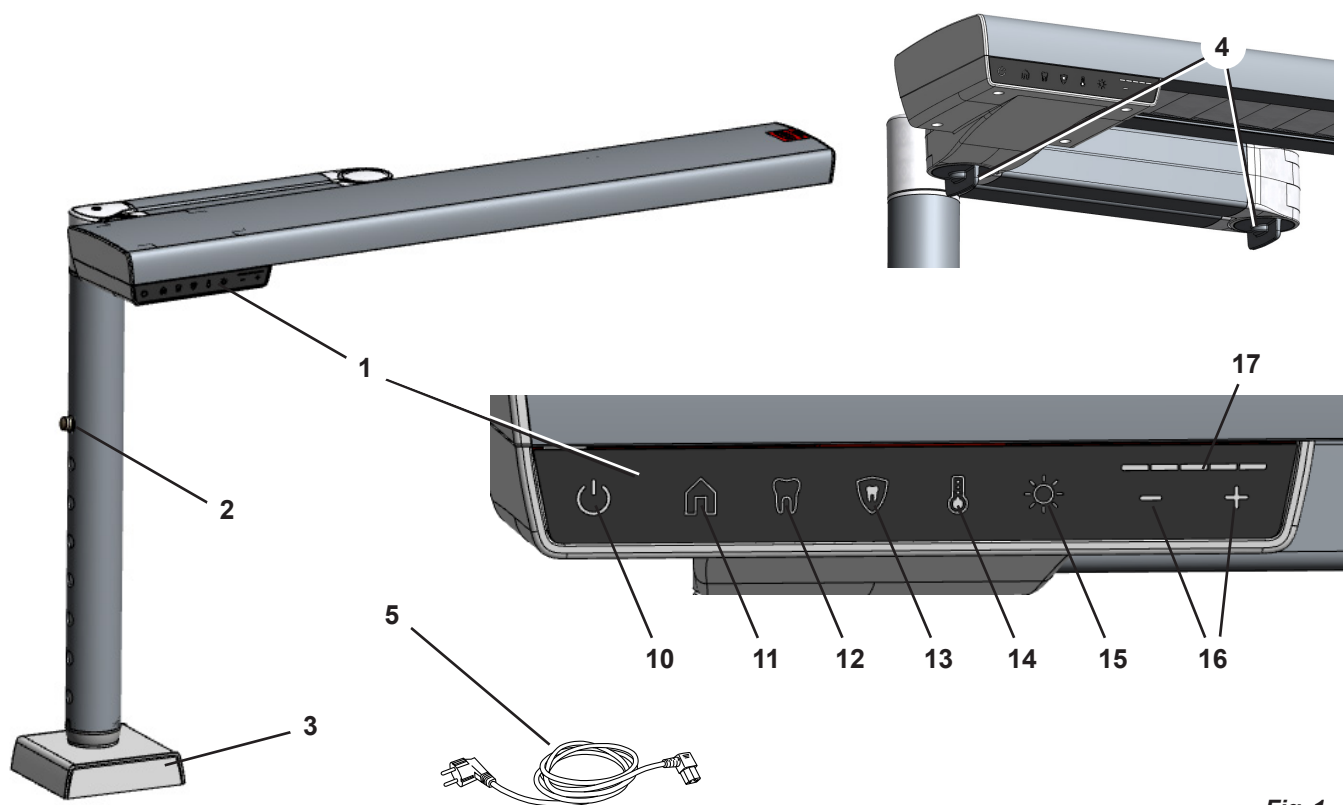

Fig. 1
See Fig. 1 (on inside cover)
⇒ Press in the height adjustment lock (2, Fig. 1) and pull out the inner tube on the base to the maximum position.
**To determine the suitable mounting location, loosen the joint lock (4, Fig. 1) and check that you can move the workbench light to the optimal position described previously.**